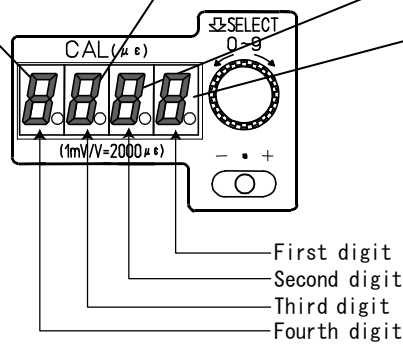

Figure 2-3
The indicated value is calculated value based on input. The value can be set from $1\mu\epsilon$ to $9999\mu\epsilon$ by a step of $1\mu\epsilon$ ($=10^{-6}$). Values should be set for each digit (Figure 2-3). Pressing calibration value setting knob ⑫ (Figure 2-3) illuminates the fourth digit of calibration value LED ⑬. Turning the switch changes the value on ⑬. Even the indication is blinking, the setting is being made.